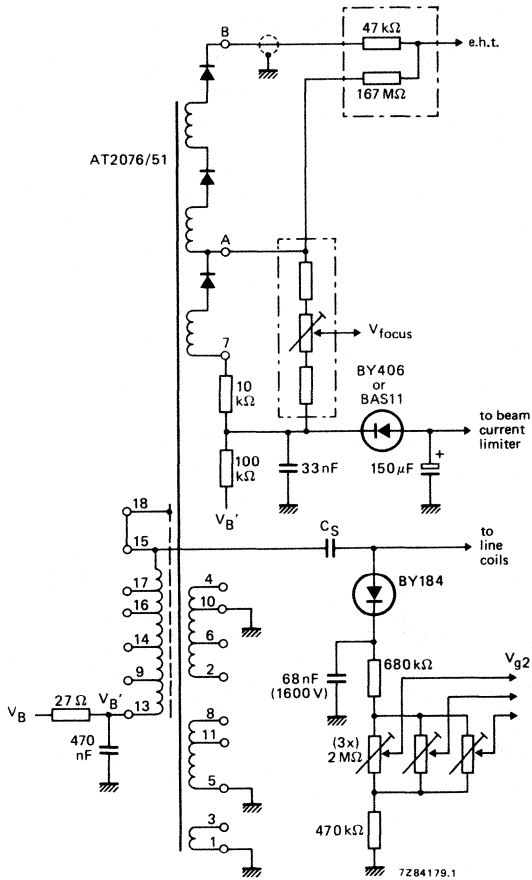

Fig. 3 Circuit diagram of transformer, and e.h.t., focus voltage and V_{g2} circuits.
* D.C. component on these pulses is $V_{\text{B}'}$ (see Fig. 3).
Above measurements using circuits of Figs 3, 4a and 4b.